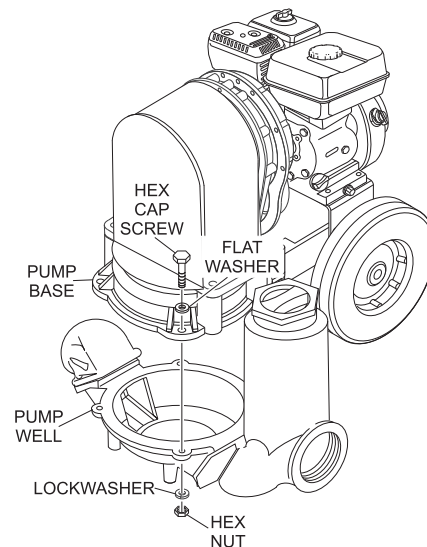

Figure 23. Pump Well (Clean-out)
3. Push pump well downwards (Figure 23) to separate from pump base.